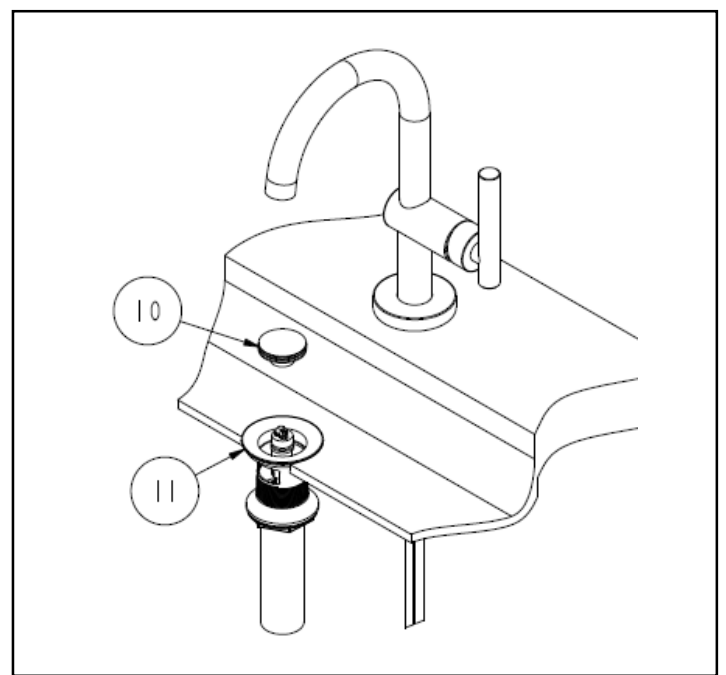

Figure 4
4. Apply thread sealant to STOPPER (10) and attach to DRAIN ASSEMBLY (II) See Figure 4.